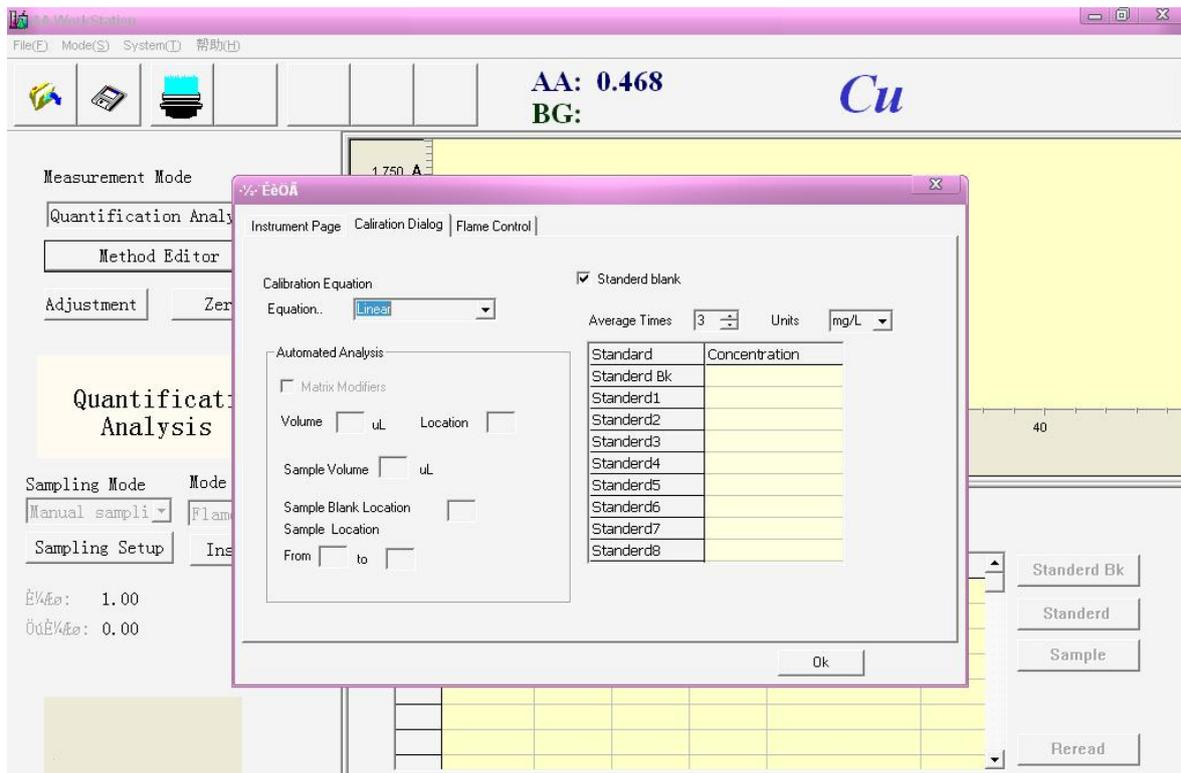

Figure 4-36
1."Equation".you can select one among the seven methods—"linear"," calibration curve", "linear standard addition method", "curve standard addition method"," the absorbance direct reading", "single-point method", "the standard deviation" (Figure 4-36)